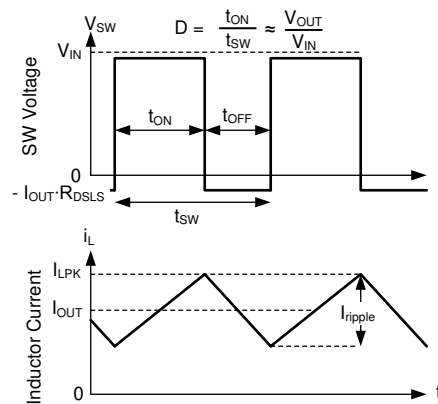

Figure 8-14. SW Voltage and Inductor Current Waveforms in Continuous Conduction Mode (CCM)
The following operating description of the LMR36503 refers to Section 8.2 and to the waveforms in Figure 8-14. In CCM, the LMR36503 supplies a regulated output voltage by turning on the internal high-side (HS) and low-side (LS) switches with varying duty cycle (D). During the HS switch on-time, the SW pin voltage, V_{SW} , swings up to approximately V_{IN} , and the inductor current, i_L , increases with a linear slope. The HS switch is turned off by the control logic. During the HS switch off-time, t_{OFF} , the LS switch is turned on. Inductor current discharges through the LS switch, which forces the V_{SW} to swing below ground by the voltage drop across the LS switch. The converter loop adjusts the duty cycle to maintain a constant output voltage. D is defined by the on-time of the HS switch over the switching period: